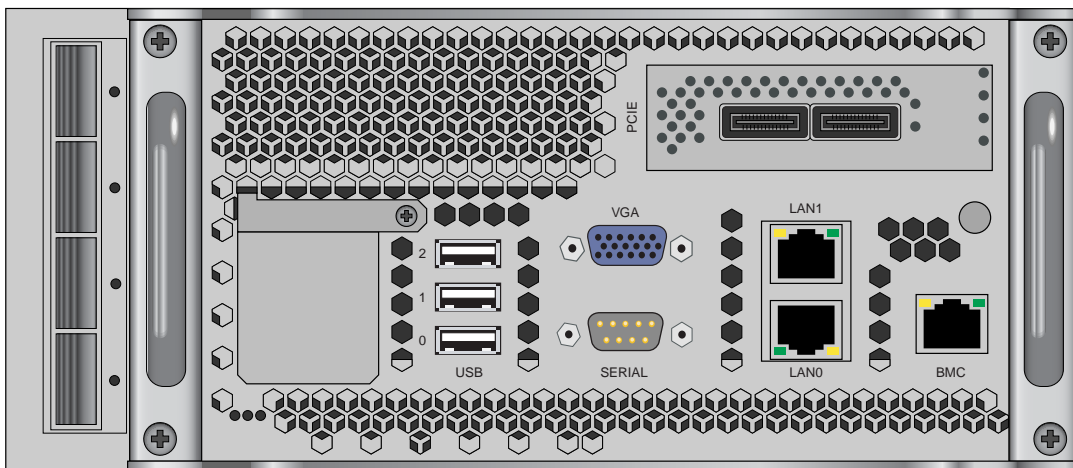

Figure 3-6 BaseIO Riser Enabled Blade Front Panel Example
- **BaseIO enabled compute blade.** I/O riser enabled blade that supports all base system I/O functions including two ethernet connectors, one BMC ethernet port and three USB ports. System disks are always controlled by a PCIe disk controller installed in the BaseIO blade's PCIe slot. Figure 3-6 on page 48 shows a front-view example of the BaseIO blade.